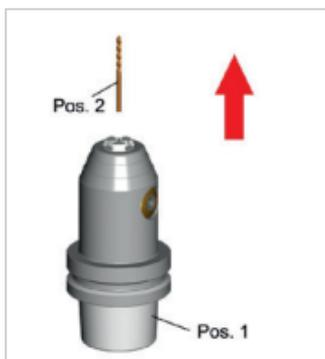

Figure 5: Removing tool
- Remove the tool (item 2) from the location bore of the MICRO universal chuck (see "Figure 5: Removing tool").